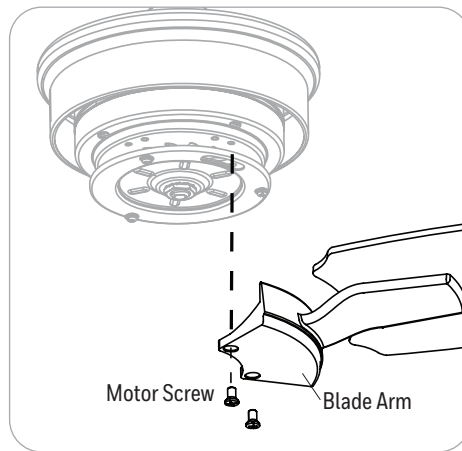

Figure 5.5
5. Install the blade arms to the underside of the motor assembly using the ten previously removed motor screws (Figure 5.5).